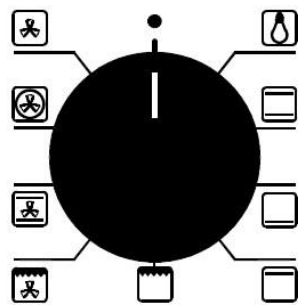

Fig.6
**Traditional cooking** - Start the oven. Turn the function selector knob (Fig.6) to the  symbol and that of the thermostat at the desired temperature. For differentiated cooking on the bottom or top, turn the function selector knob to the  symbol or  symbol .